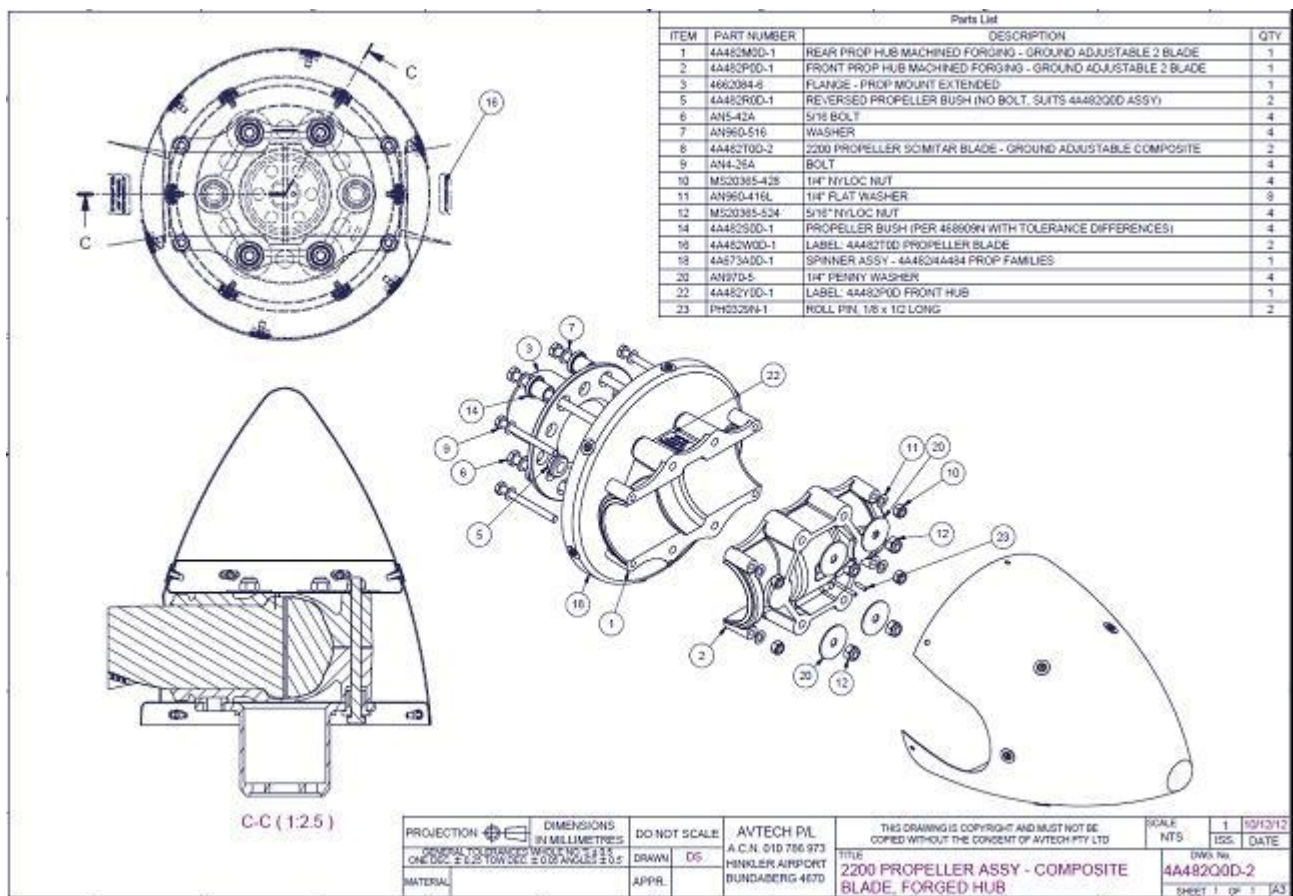

Figure 7 – Typical Propeller Installation
Figure 7 shows a typical propeller installation.
- Figure 7 shows typical propeller installation details.